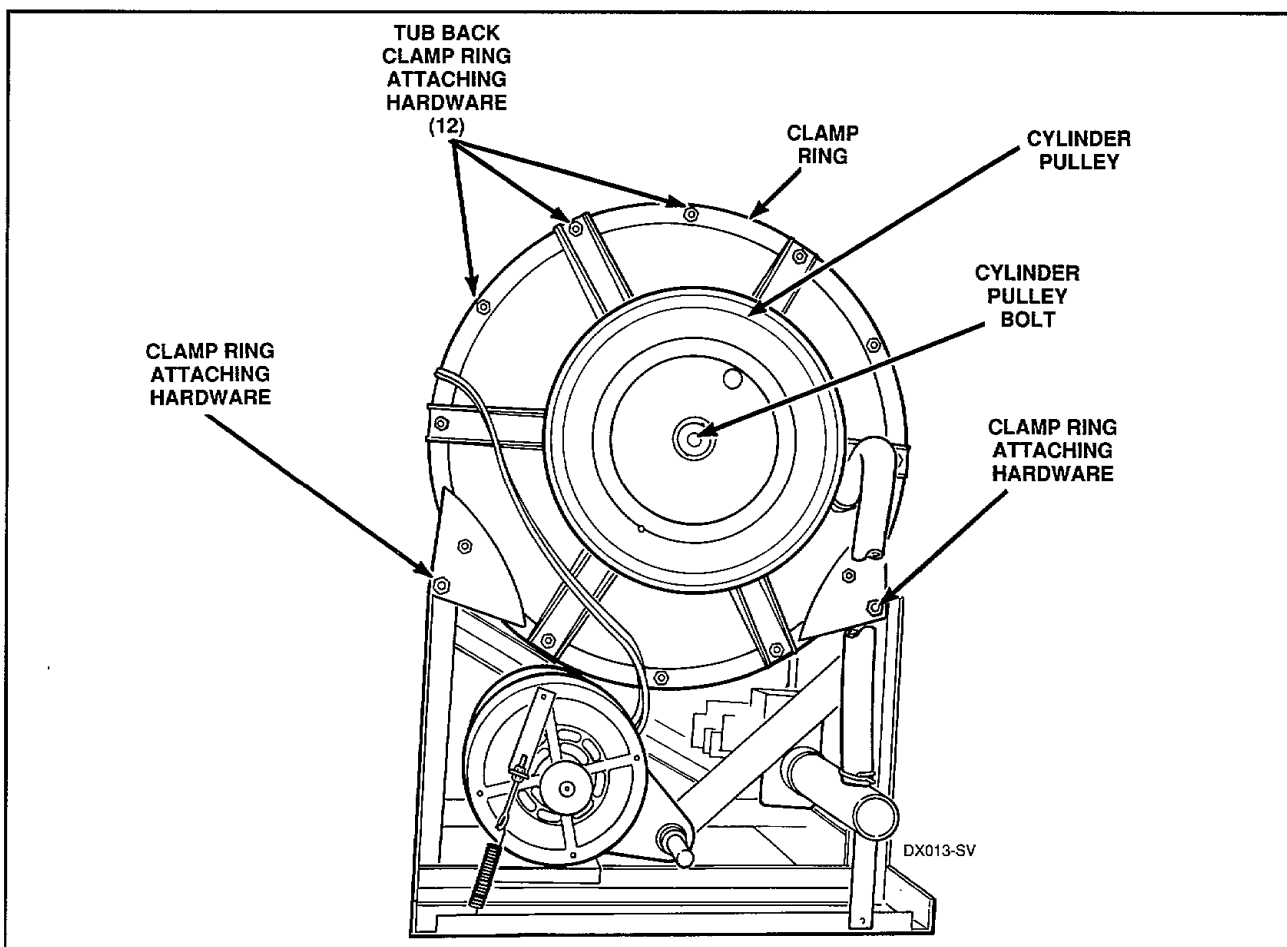

Figure 22
- s. Remove the 12 bolts, lockwashers and nuts from the tub back clamp rings, *Figure 22*.
- t. Remove two bolts, lockwashers and nuts holding the clamp ring to the two rear frame legs, *Figure 22*.
- w. Remove screw, lockwashers and flat washer holding cylinder pulley to shaft, *Figure 22*.
- b. The bolts, shims, lockwashers and nuts around the perimeter of the tub back must be reinstalled as they were originally and torqued to 35 foot pounds, *Figure 22*.